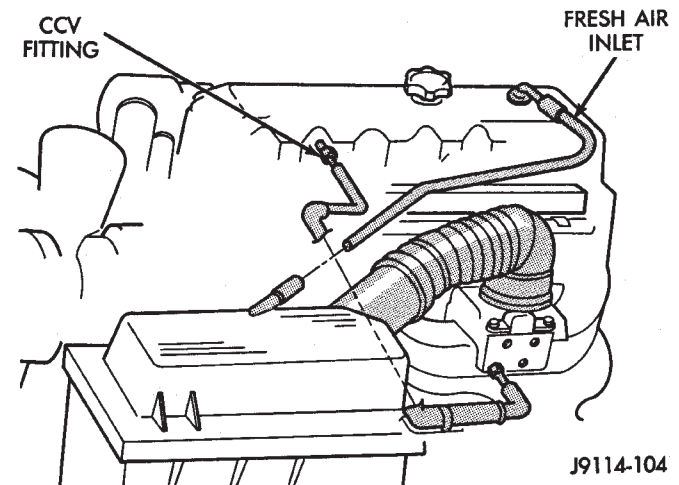

Fig. 1 Engine Cylinder Head Cover
- (1) Disconnect negative cable from battery.
- (2) Disconnect the Crankcase Ventilation (CCV) vacuum hose from engine cylinder head cover (Fig. 1).
- (3) Disconnect the fresh air inlet hose from the engine cylinder head cover (Fig. 1).
- (4) Remove the engine cylinder head cover mounting bolts.
- (5) Remove the engine cylinder head cover.
(1) If a replacement cover is installed, transfer the CCV valve grommet the oil filler cap from the original cover to the replacement cover.
(2) Install engine cylinder head cover. Tighten the mounting bolts to 10 N·m (85 in. lbs.) torque.
- (3) Connect the CCV hoses (Fig. 1).
- (4) Connect negative cable to battery.